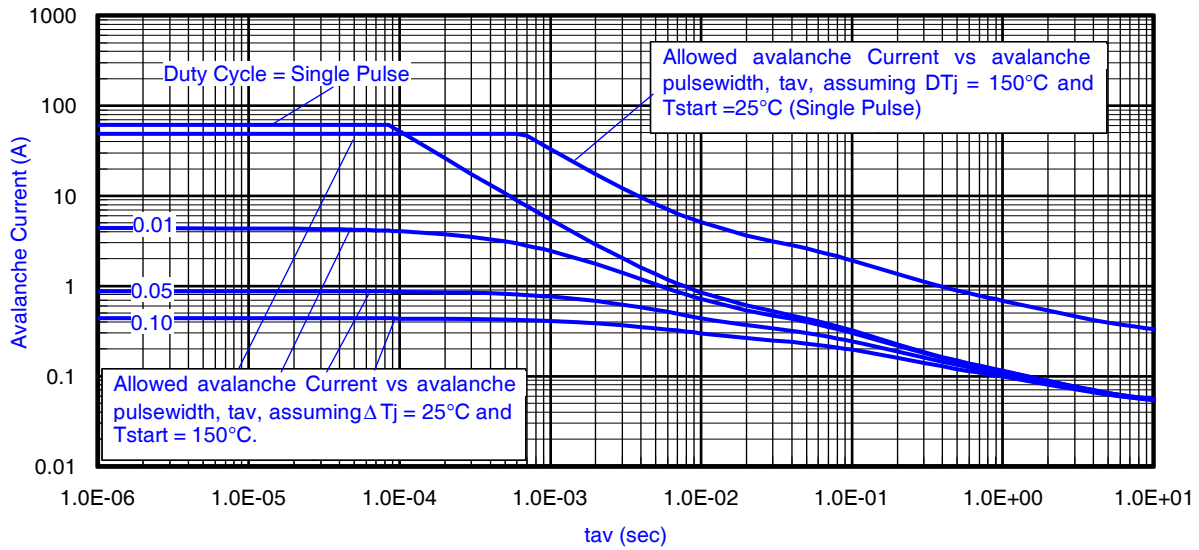

Fig 16. Typical Avalanche Current vs.Pulsewidth
Notes on Repetitive Avalanche Curves , Figures 16, 17: (For further info, see AN-1005 at www.irf.com)
7. ΔT = Allowable rise in junction temperature, not to exceed T_{jmax} (assumed as 25°C in Figure 16, 17).